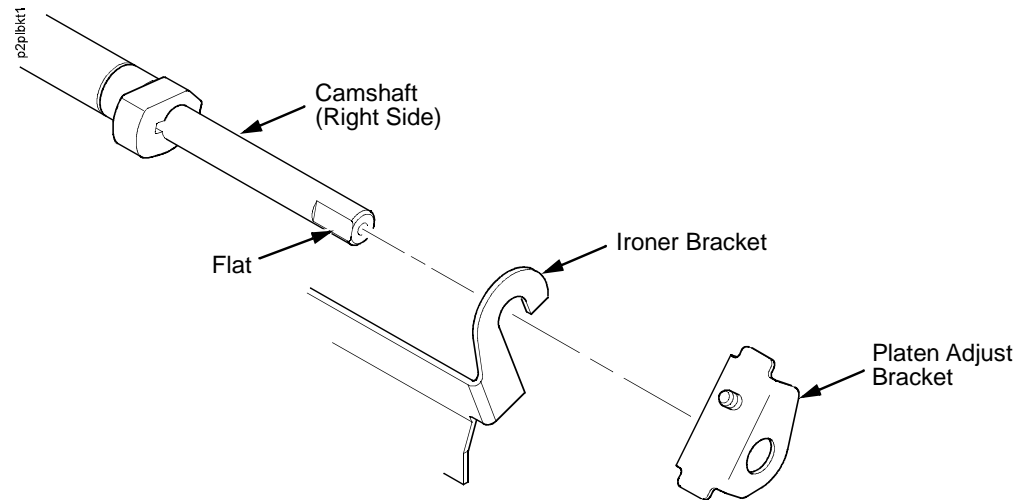

Figure 14. This figure shows how to install the platen adjust bracket onto the right side of the camshaft.
3. Make sure the two wear saddles are set flush into the corners of the mechanism base platen seat. (See page 472, item19.)
5. Install one platen adjust bracket onto one end of the camshaft, with the screw at the top of the bracket. (See Figure 14.)
7. Insert the left end of the camshaft through the left adjust bracket and through the opening in the left side plate. Rotate the right end of the camshaft into the opening in the right side plate and position the adjustment brackets as shown in Figure 14.
8. Slide the right ribbon guide assembly into the side plate and install the two 7/32 inch screws and washers. (See page 475, items 11, 13, and 14.)
10. Install the black metal washer onto the left side of the camshaft. (See page 472, item 24.)
11. Apply bearing lubricant to the nylon bearings in the two spring links, slide the spring links onto the two platen shafts, and connect the springs to the spring hooks in the side plates. (See page 472, items 15, 16, and 17.)
13. Install the paper ironer bracket. (See page 472, item 5.)